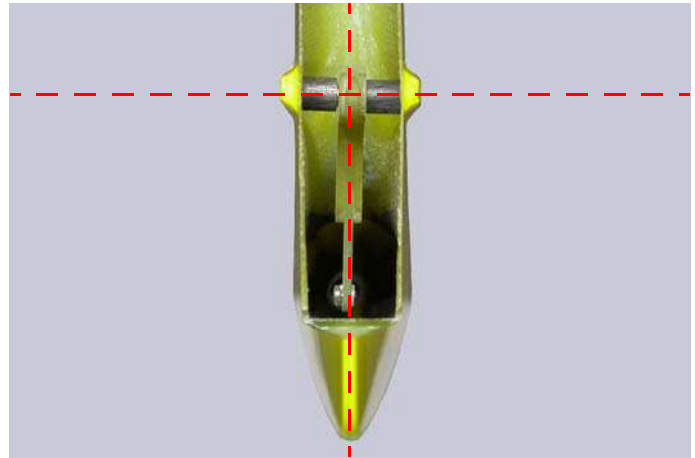

Fig.20: Perfectly vertical, not like this!
- Once having positioned the bellcrank group, check the alignment comparing it with the fin: the bellcrank must be perfectly vertical (the example in figure 20 shows a not well aligned bellcrank: this must be corrected).